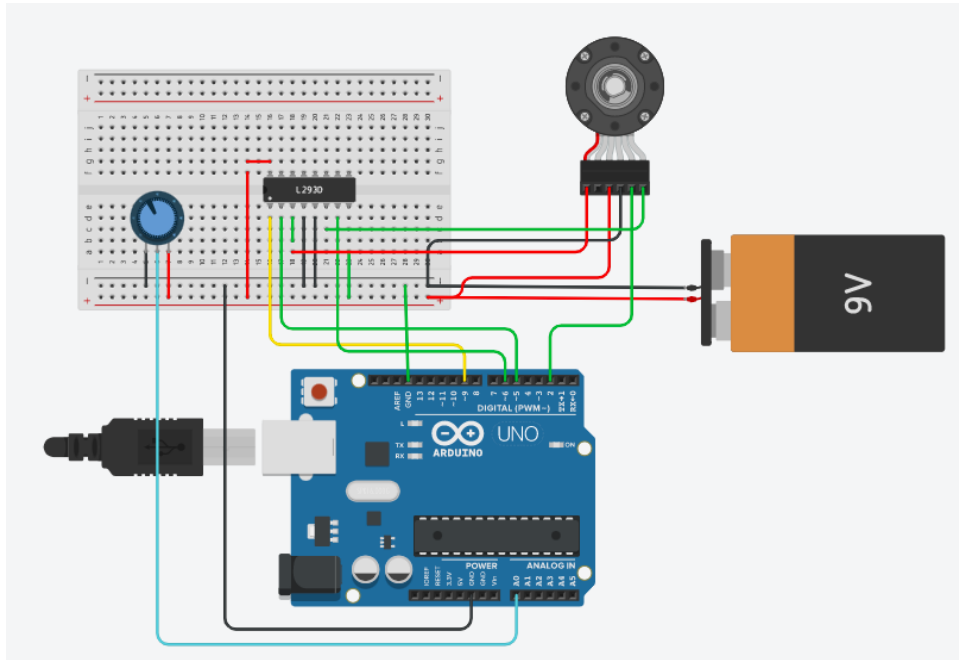

Fig. 1: Simulation Circuit Model
1. The circuit as shown in Fig. 1 was designed in TinkerCAD.